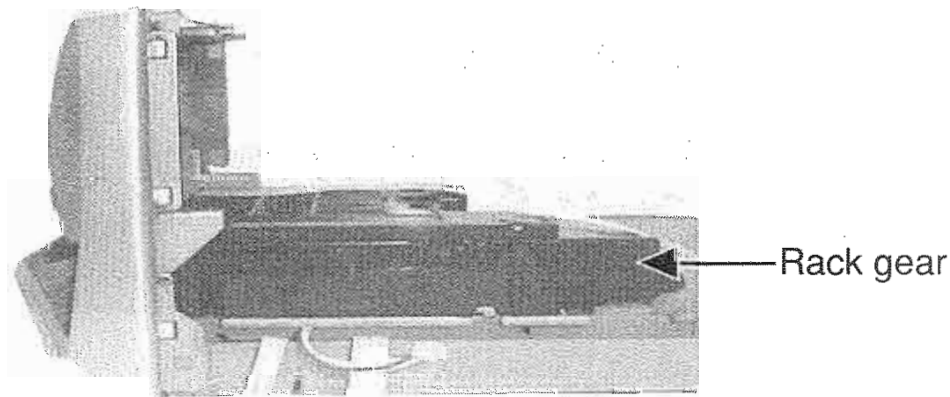

Fig.6
3. Push the Rack gear so that CD tray is open (Fig.6).